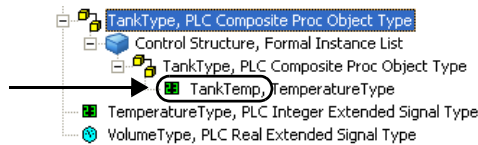

Figure 9. Added Signal Type Instance
19. Expand the composite process object type to view the added instance as shown in Figure 9.